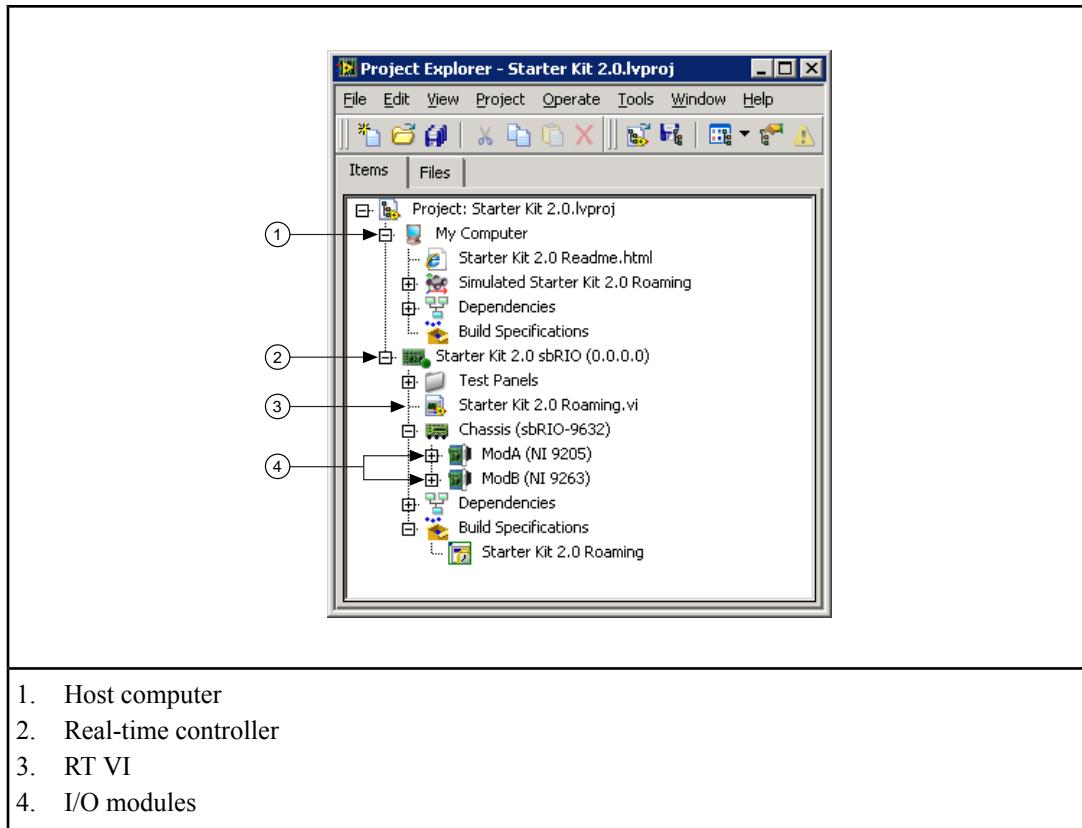

Figure 2. Parts of a LabVIEW Project
Use LabVIEW projects on the host computer (1) to group LabVIEW files and files not specific to LabVIEW, create stand-alone applications, and deploy or download VIs (3) and applications to RT (2) and FPGA targets that contain I/O modules (4). When you save a project, LabVIEW creates a project file (`.lproj`), which can include references to files in the project, configuration information, build information, and deployment information. Figure 2 shows the parts of a typical LabVIEW project.